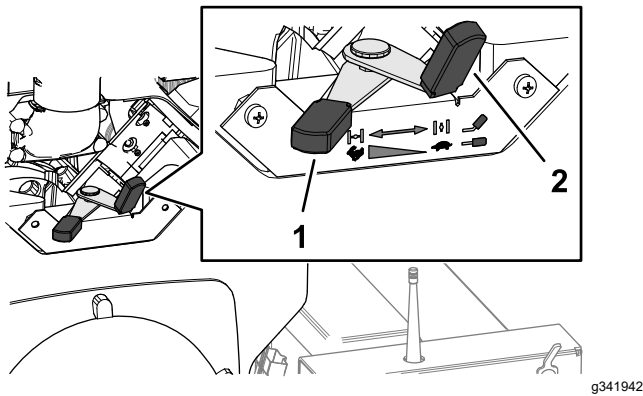

Figure 17
2. Before starting a cold engine, move the choke lever (Figure 17) to the ON position.